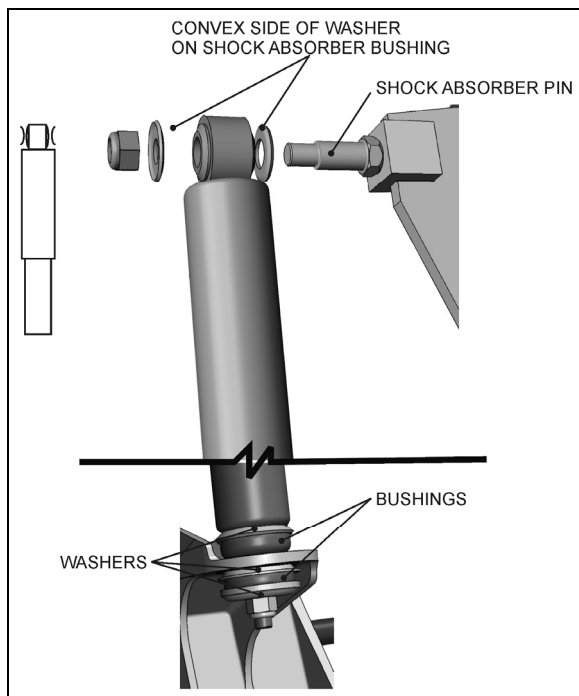

FIGURE 41: TYPICAL SHOCK ABSORBER SETUP 16009
Double-action, telescoping-type shock absorbers ensure a smooth ride and enhance vehicle stability on the road. The tag axle is provided with two shock absorbers while the drive axle is provided with four of them (Fig. 41).
1. Remove nuts and washers from shock absorbers on upper mounting pin and lower mounting bracket, taking care to identify the inner and outer washers to ease reinstallation. Refer to figure 41 for details.